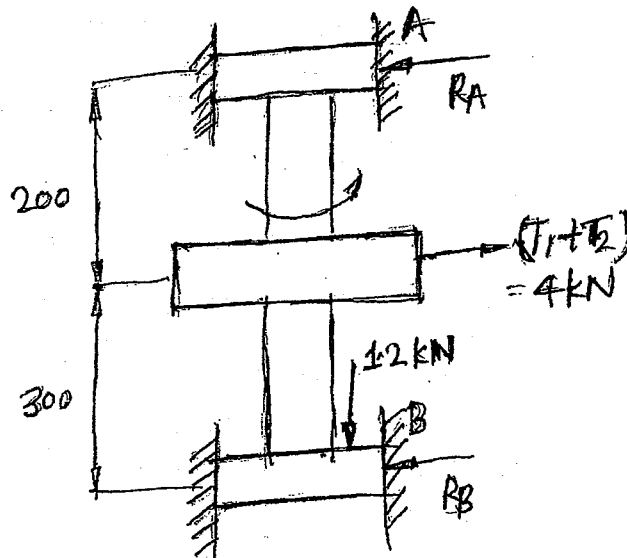

Fig. 1
B) Select a single row deep groove ball bearing for the lower bearing B of the vertical shaft of diameter 30 mm, shown in fig. 1. The shaft is driven by a belt drive and the resultant force acting on the pulley is 4 kN. The thrust acting on the lower bearing is 1.2 kN. Base the selection for a life of 5000 hours. The shaft rotates at 400 rpm. Take the service factor as 1.5 for minor shock loads.